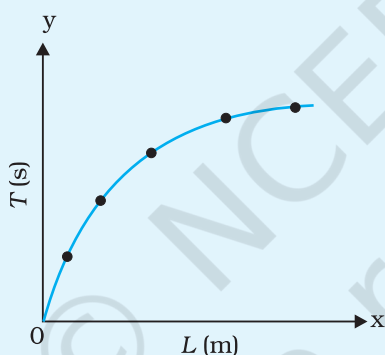
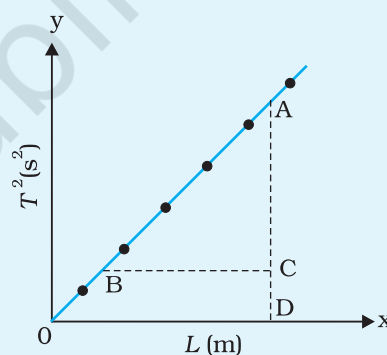

Fig. E 6.3: Graph of L vs T
Fig. E 6.4: Graph L vs T^2
9. Take effective length L along x-axis and T^2 (or T) along y-axis, using the observed values from Table E 6.1. Choose suitable scales on these axes to represent L and T^2 (or T). Plot a graph between L and T^2 (as shown in Fig. E 6.4) and also between L and T (as shown in Fig. E 6.3). What are the shapes of L - T^2 graph and L - T graph? Identify these shapes.
Plot a graph between L versus T from observations recorded in Table E 6.1, taking L along x-axis and T along y-axis. You will find that this graph is a curve, which is part of a parabola as shown in Fig. E 6.3.
Plot a graph between L versus T^2 from observations recorded in Table E 6.1, taking L along x-axis and T^2 along y-axis. You will find that the graph is a straight line passing through origin as shown in Fig. E. 6.4.